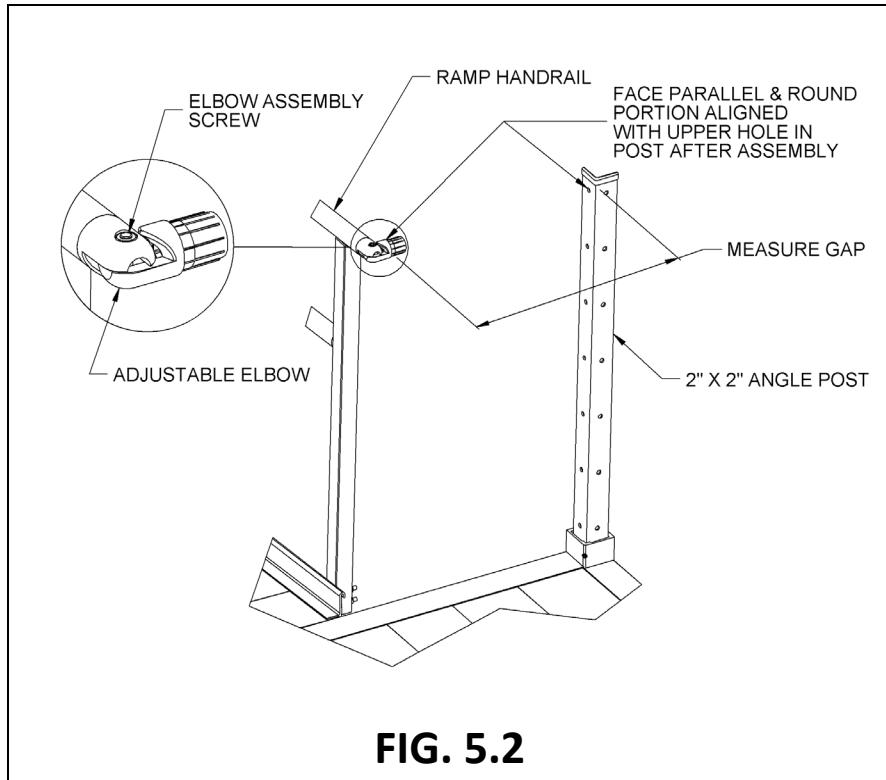

FIG. 5.2
- 5.4.2. This procedure is the same regardless of the style of closure. Insert an adjustable elbow in the ramp handrail. Loosen the elbow assembly screw and position the round portion of the adjustable elbow so it is aligned with the upper hole in the angle post and the face is parallel to the post. Measure the gap between the face and the post (FIG. 5.2).